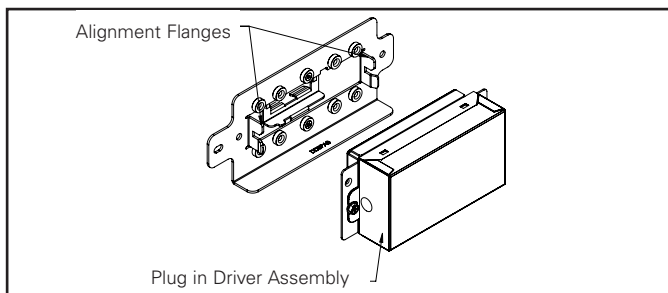

Figure 23.
8. Hold and pull the plug-in driver box assembly until it disconnects (Figure. 23).
11. Align the plug-in driver box assembly with alignment flanges & the connector on the junction box and gently push it to the end till the connector engages (Figure 23).